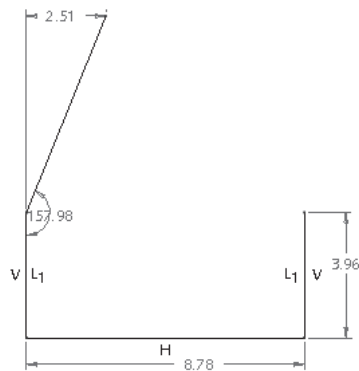

Figure 1-22 Lines with weak dimensions
- Draw lines using the line tool, refer to Figures 1-22 and 1-23.
8. Move the cursor to size the line and specify the endpoint of the left inclined line, see Figure 1-22.